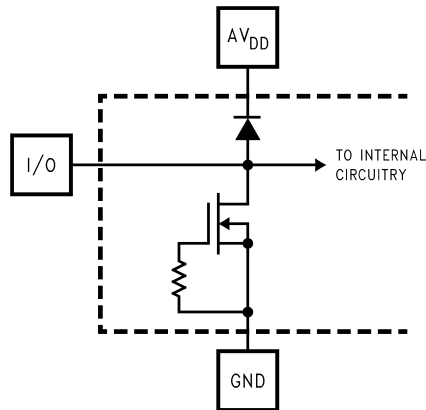

Figure 2.
- (1) The analog inputs are protected as shown below. Input voltage magnitudes up to 6.5V or to 500 mV below GND will not damage this device. However, errors in the A/D conversion can occur if the input goes above  $V_{DD}$  or below GND by more than 50 mV. As an example, if  $AV_{DD}$  is  $4.75V_{DC}$ , the full-scale input voltage must be  $\leq 4.80V_{DC}$  to ensure accurate conversions. See Figure 2.
- (2) To ensure accuracy, it is required that  $AV_{DD}$  and  $DV_{DD}$  be well bypassed. Each supply pin must be decoupled with separate bypass capacitors.
- (3) Typical figures are at  $T_J = 25^\circ\text{C}$ , and represent most likely parametric norms. Test limits are specified to TI's AOQL (Average Outgoing Quality Level).